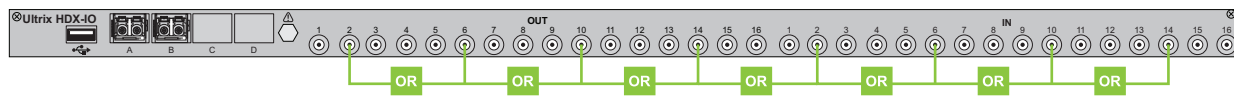

Figure 57 Example of UltraProc 6Gbps or 12Gbps Mapping on a Single ULTRIX-HDX-IO Blade
**Figure 57** illustrates the connections allocated for UltraProc on the ULTRIX-HDX-IO blade for data rates up to 6Gbps and 12Gbps.